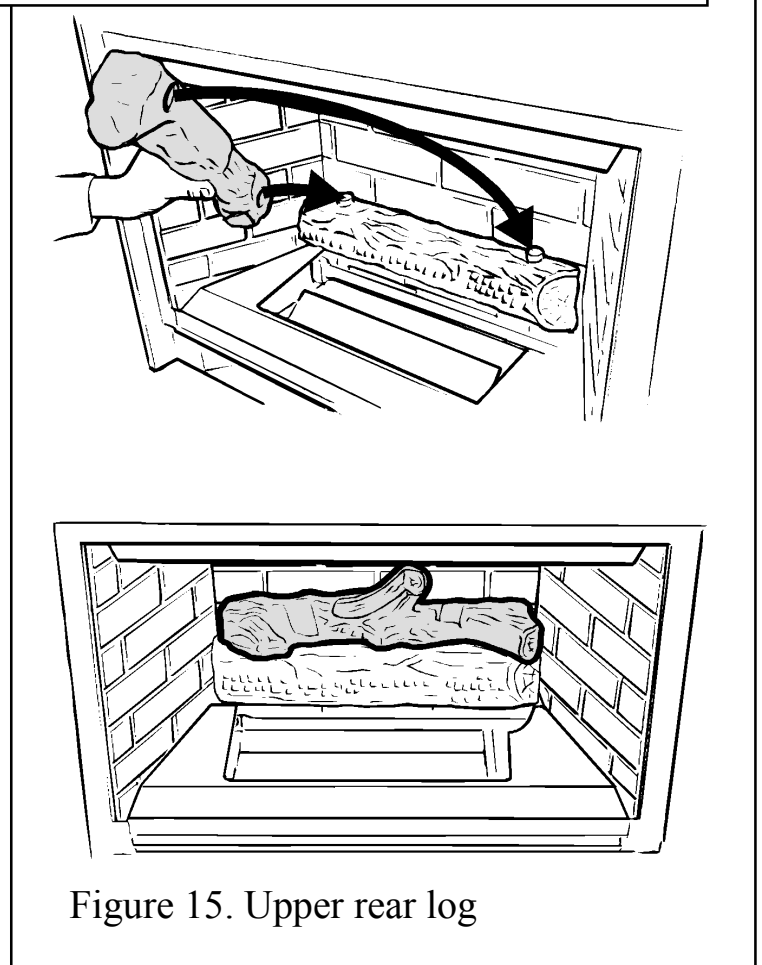

Figure 15. Upper rear log
2. Place the upper rear log on top of the lower rear log. The pegs in the lower log locate in the holes in the upper log (figure 15).